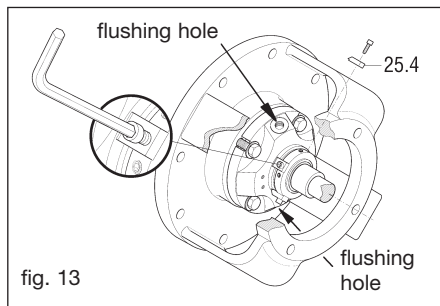

fig. 13
- Block the impeller (03) and remove the self-locking impeller nut (33)
- Fix the seal lock setting plates (25.4) in their seats (fig. 13)
- Remove the setting plates (25.4) which hold the seal (fig. 13) and fix them in the appropriate holes in the flange so that they can be used again to remove the seal